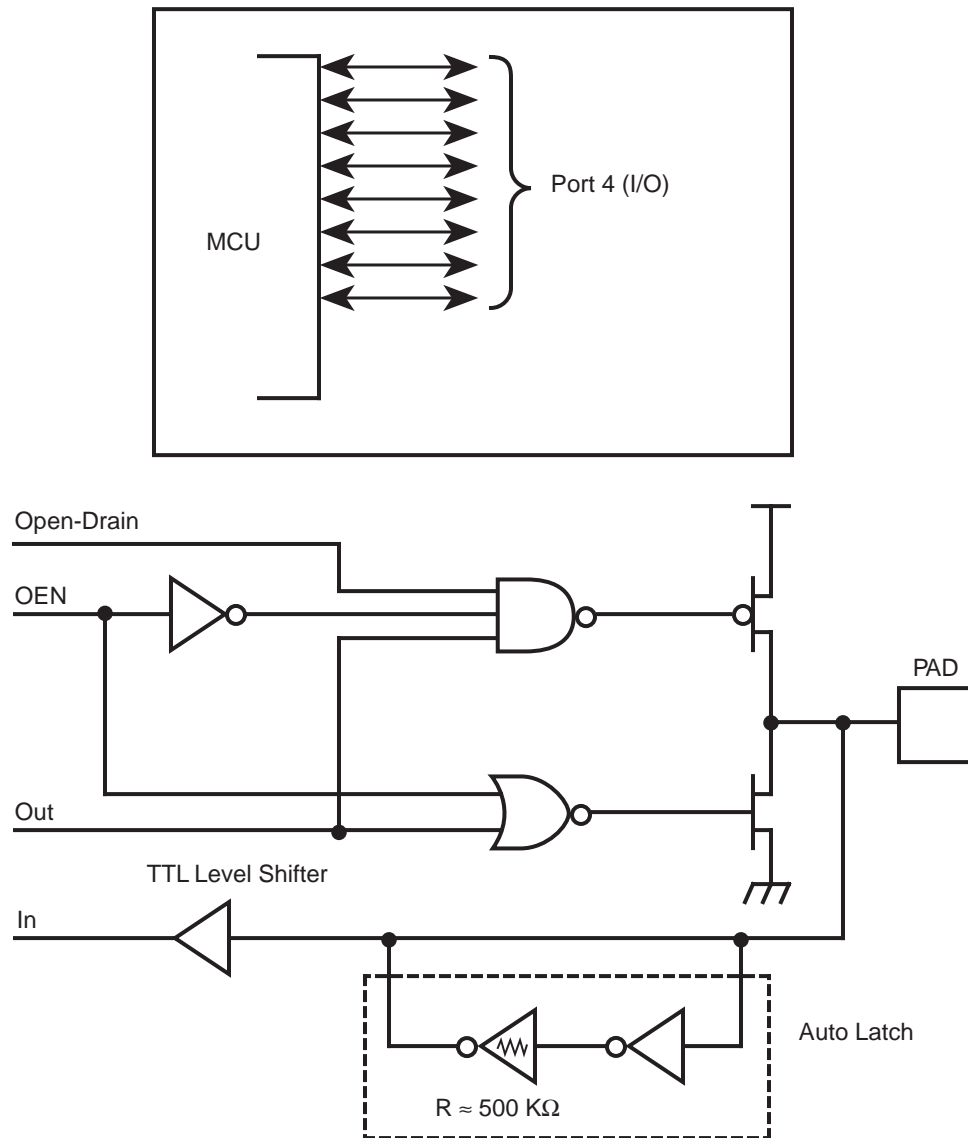

Figure 15. Port 4 Configuration
Port 4 (P47-P40). Port 4 is an 8-bit, bit programmable, bidirectional, CMOS compatible port. Each of these eight I/O lines can be independently programmed as an input or output or globally as an open-drain output. Port 4 is always available for I/O operation (Figure 15). Port address (F)02.